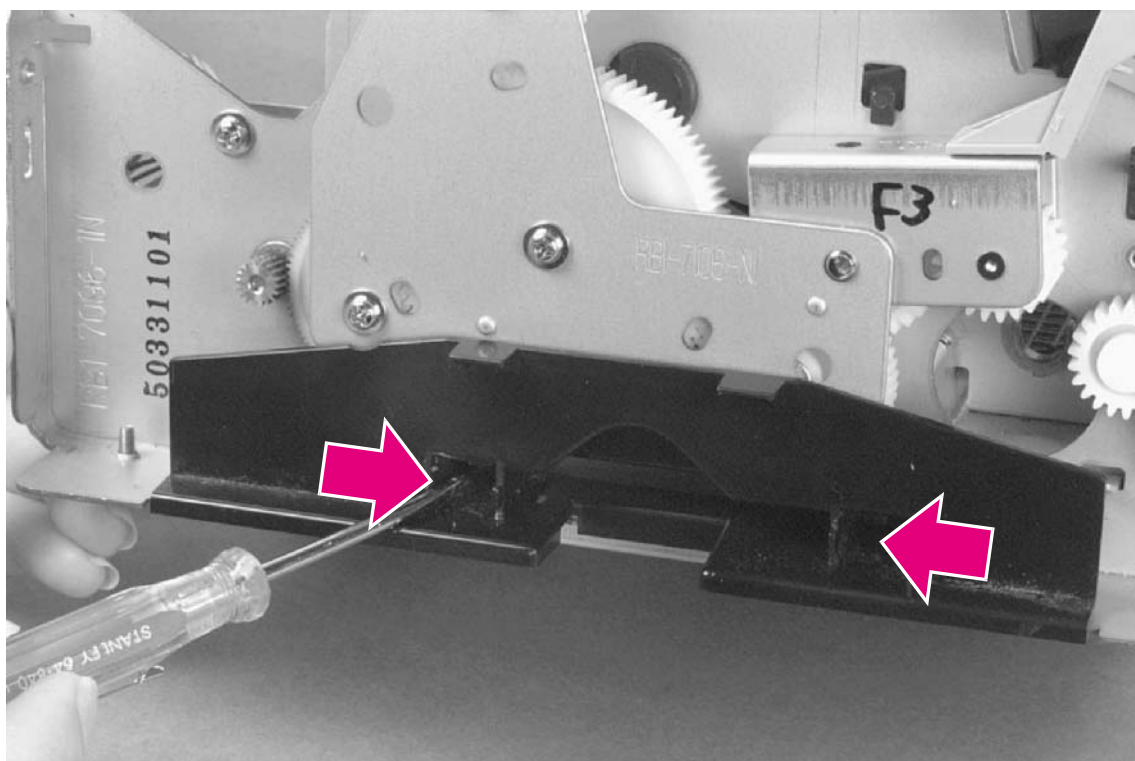

Figure 6-38 Memory Door Guide removal
- 3 Two tabs hold the memory door guide on the printer chassis. Press each tab inward (Figure 6-38).